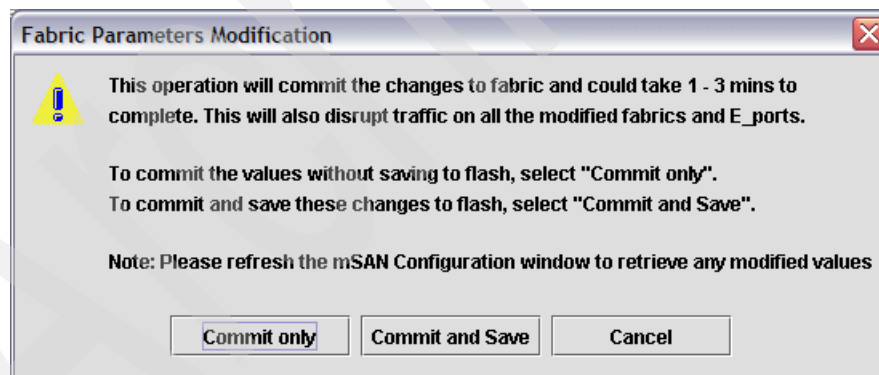

Figure 17-56 Committing the import
8. Respond to the warning shown in Figure 17-56 by clicking **Commit and Save** (or **Commit only** if you will be making other changes later). This will take a short while.